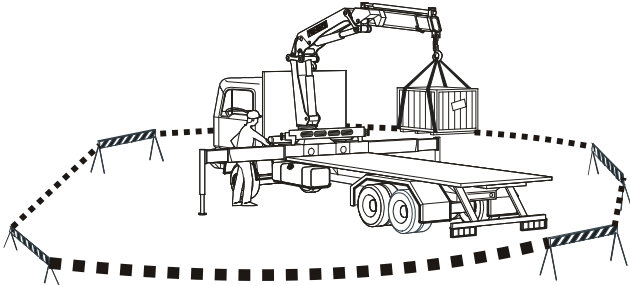

Figure 7.5: Establishing and marking work zone
- Establish and clearly mark the work zone to prevent unauthorized entry (Figure 7.5).